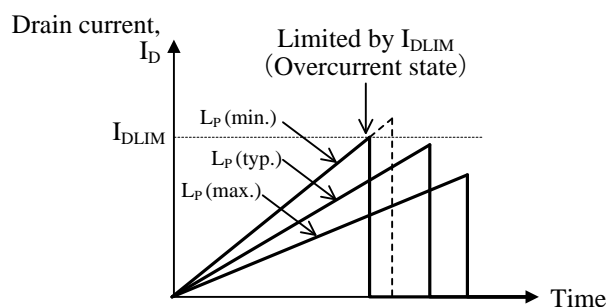

Figure 13-2 Relation between  $L_P$  and drain current  $I_D$
- 2) The peak value of drain current  $I_D$  in normal operation is determined by  $L_P$  value. Since the slope of  $I_D$  is expressed as  $V_{DS}/L_P$ , the smaller the  $L_P$  value, the steeper the slope of  $I_D$  becomes. Thus the peak value of drain current becomes high as shown in Figure 13-2. The IC limits the peak current by drain current limit  $I_{DLIM}$  (Overcurrent state). If  $L_P$  value becomes small by variation, there is the case that the system is in overcurrent state. Then the designed output power cannot be achieved. Thus the  $L_P$  value should be determined after the confirmation in actual operation using minimum  $L_P$  value within the variation, where the peak current value should be less than  $I_{DLIM}(\text{MIN})$  in minimum input voltage of power supply.